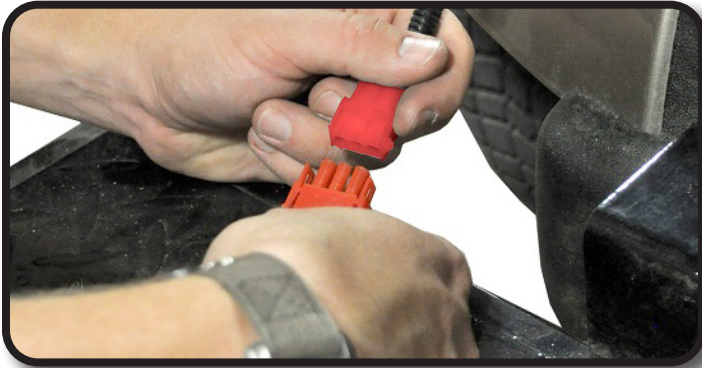
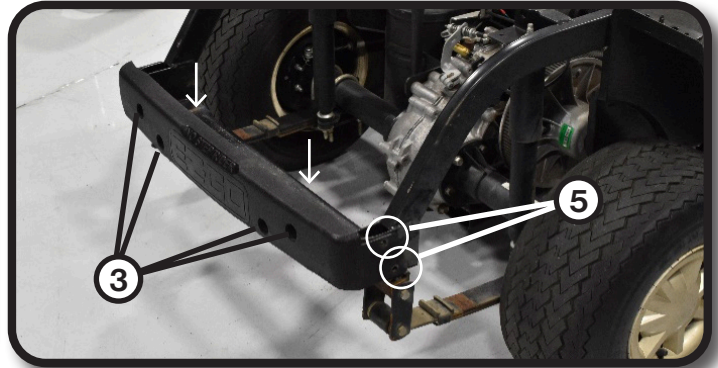

Fig. 2
Fig. 3
Unplug taillights, if equipped, as shown below in Fig. 2.. Drill out two (2) rivets in bottom of bagwell, if equipped. See arrows in Fig. 3. Remove the body from the vehicle.
Remove the four (4) plugs (Item 3) in the bumper. Remove the screws and drill out two rivets (Item 5) on each side (4 total). See Fig. 3. Retain mounting nuts and bolts.